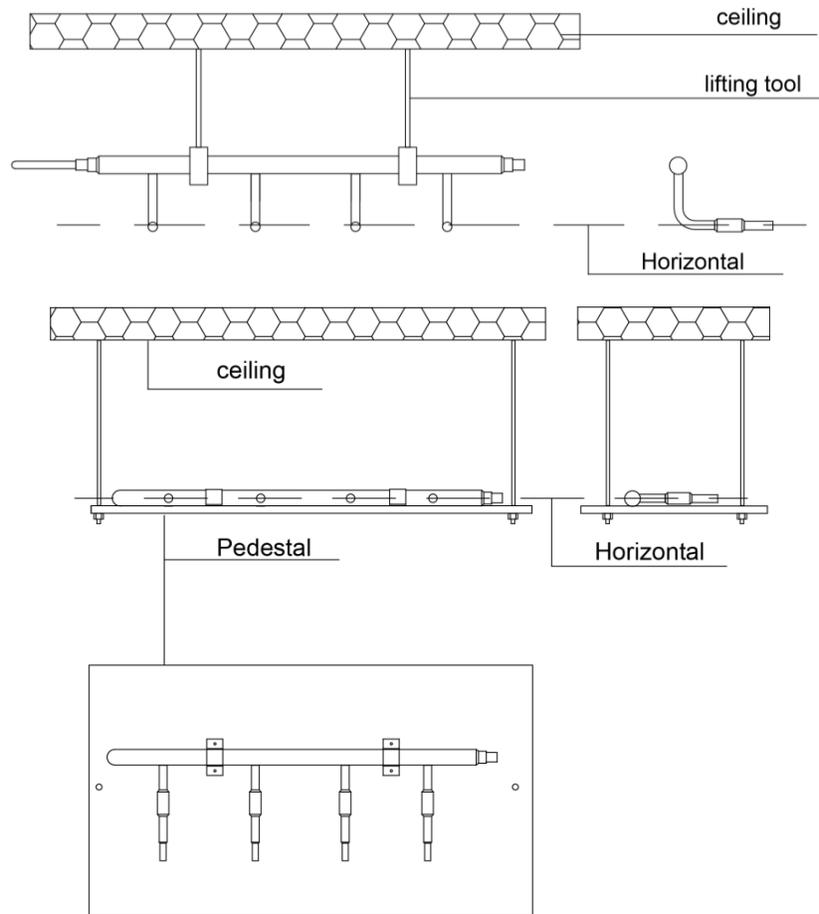

Fig. 4.3.7
(4) Suspend the header to the ceiling, and be sure to install the T-type manifold so that the outlet pipes are horizontal at the lower side. See Fig. 4.3.7.